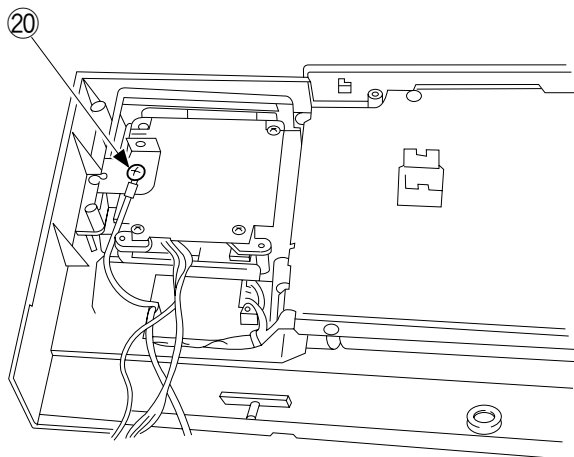

Figure 8-414
14) Install the grounding wire ⑳ of the Control Card V as indicated in Figure 8-414.